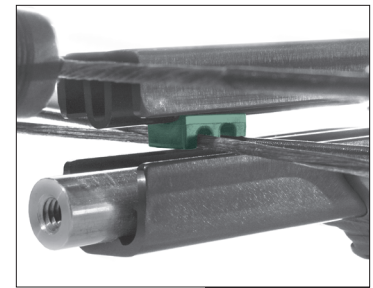

FIGURE 2
- 2a** Next, orient the limbs and riser assembly (Part B) so that bowstring (Part 16) rests on top of the flight rail (Part 4) and the cable slide fits into the opening at the end of the rail. The side of the cable slide with the open groove should face up, with the wider opening facing the back of the crossbow, so that it smoothly slots into the rail opening. See Figure 2.